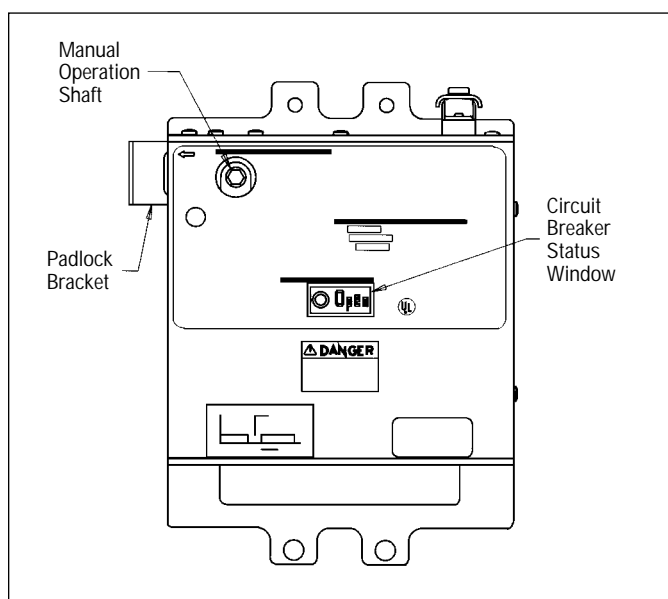

Figure 3-1 Location of External Operating Devices
- 3-1. Slide REMOTE OPERATION switch to the CLOSE position by moving padlock bracket to the non-padlock position. (See Figure 3-1.)
- 3-7. With a screwdriver, press the manual PUSH-TO-TRIP button on the circuit breaker. (See Figure 3-1.) Verify that the display indicates the Trip position.